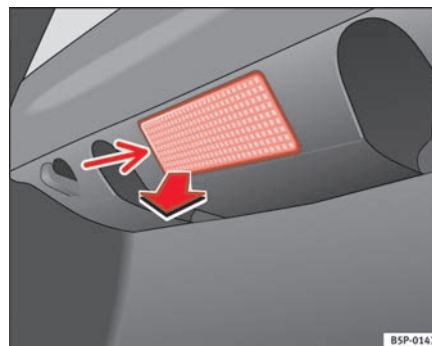

Fig. 192 Luggage compartment light
- Remove the bulb by pressing on the inside edge of this -arrow- using the flat side of a screwdriver ⇒ fig. 192. ▶